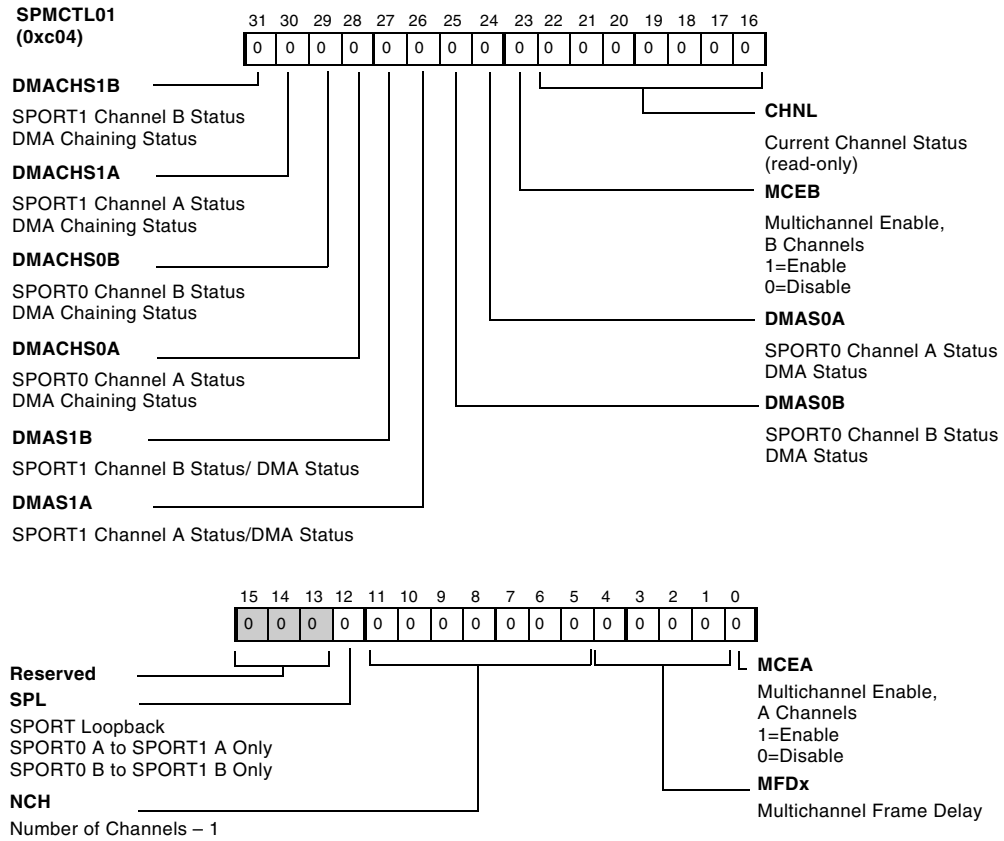
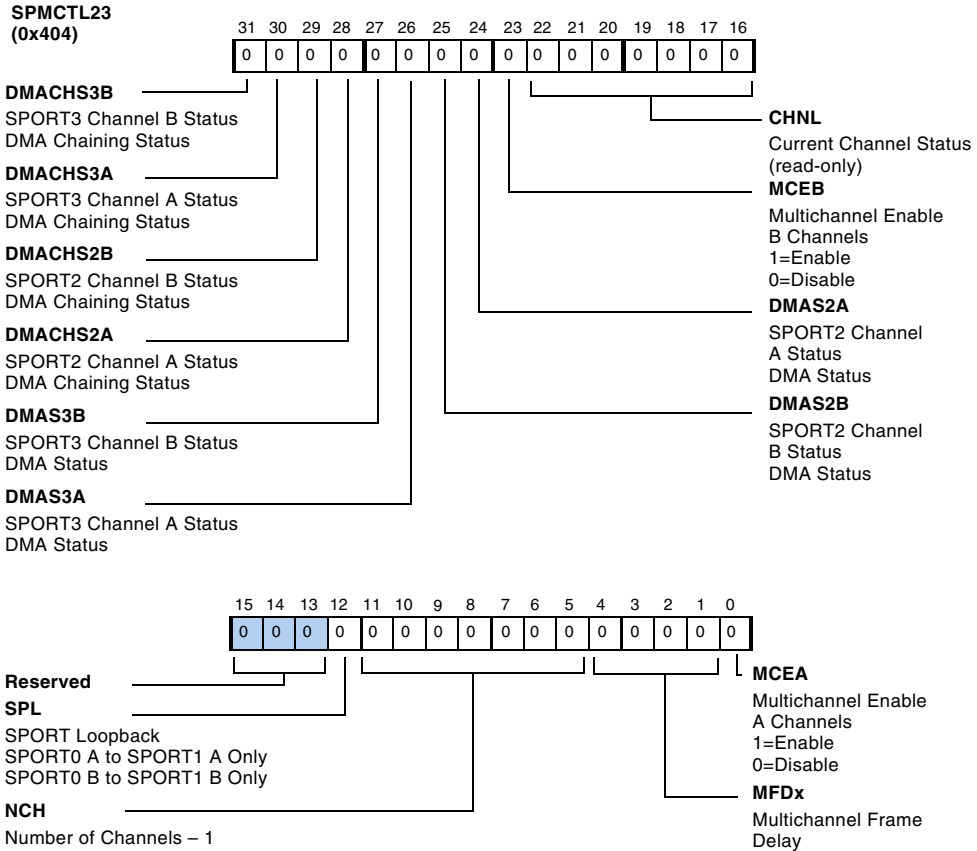

Figure A-24. SPMCTL01 Register – Multichannel Mode
Figure A-25. SPMCTL23 Registers – Multichannel Mode
- Figure A-24 and Figure A-25 provide bit definitions for SPORTS 0, 2, and 4 (transmit) in Multichannel mode.